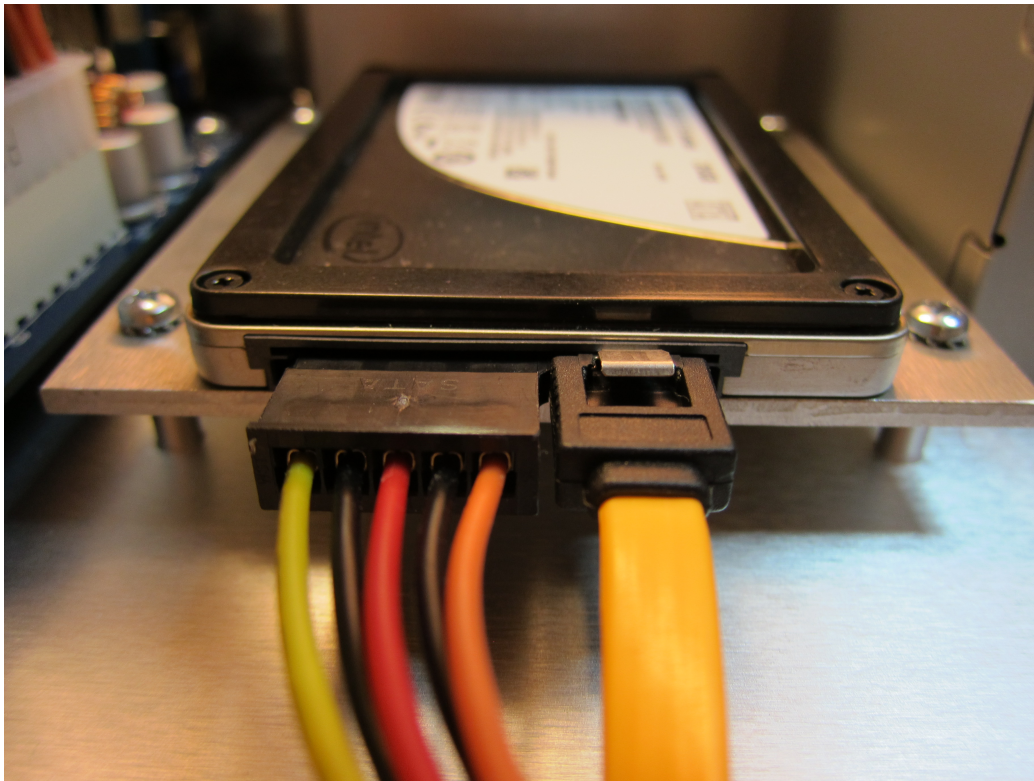

Figure 40: Power and data cables connected to the SSD.
7. Connect free end of the SATA cable to the solid-state drive (Fig. 40).
8. Connect SATA power connector to the solid-state drive, as shown in Fig. 40.